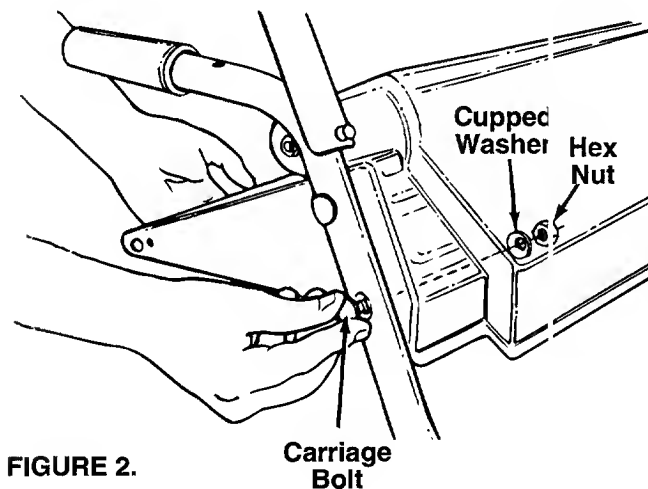

FIGURE 2.
- Place the handle panel in position between the handles. Secure with four carriage bolts, cupped washers (cupped side against the handle panel) and hex nuts as shown in figure 2.